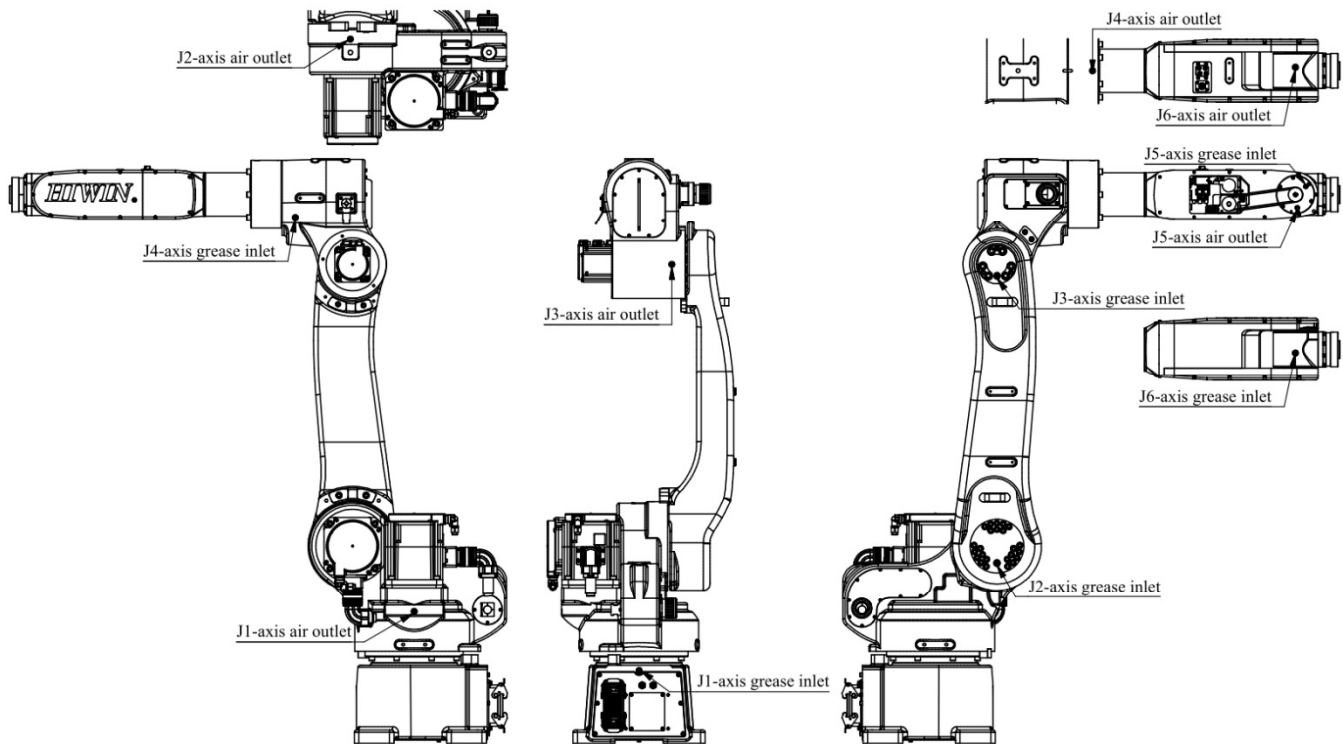

Figure 5-6 Lubrication and air inlet/outlet positions
- ⊙ The grease inlets and the air vents are shown in Figure 5-6.